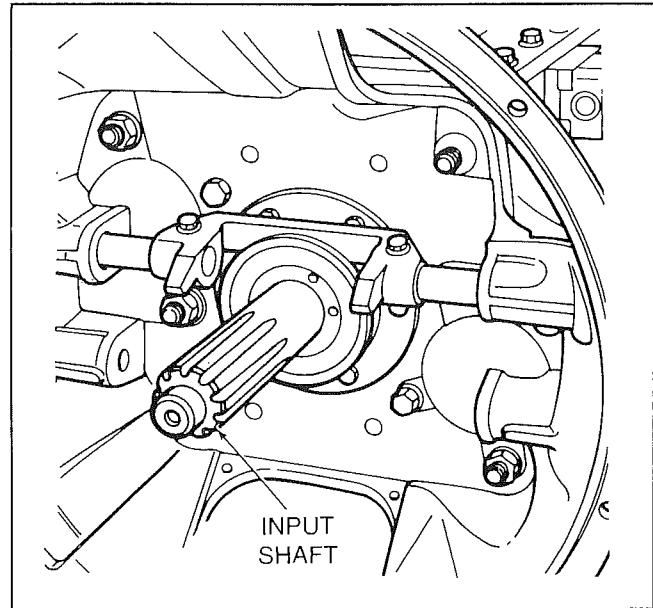

Figure 9-15. Input Shaft Inspection
1. Inspect the input shaft for wear or damage of the splines, release bearing contact area and pilot bearing arbor (Fig. 9-15). Service as necessary.